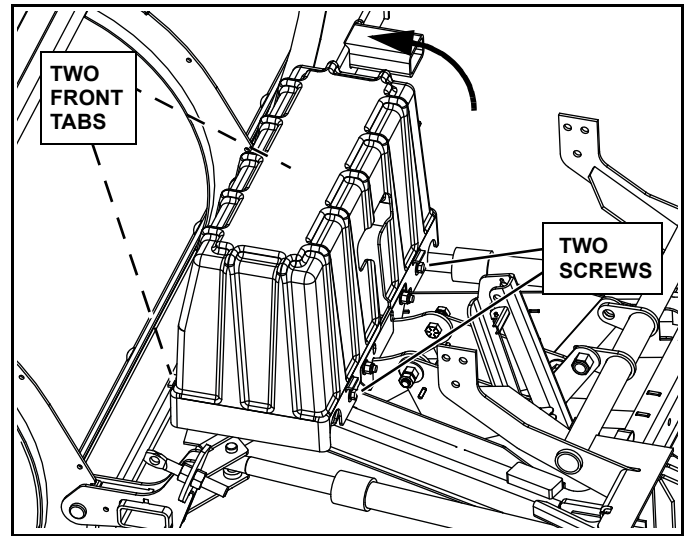

Figure 2-2
3. Remove the two screws at the lower back of the pump cover. Pull the back of the pump cover off the rear tabs and rotate the cover slightly forward. Push the cover off the front tabs and remove. (See Figure 2-2)